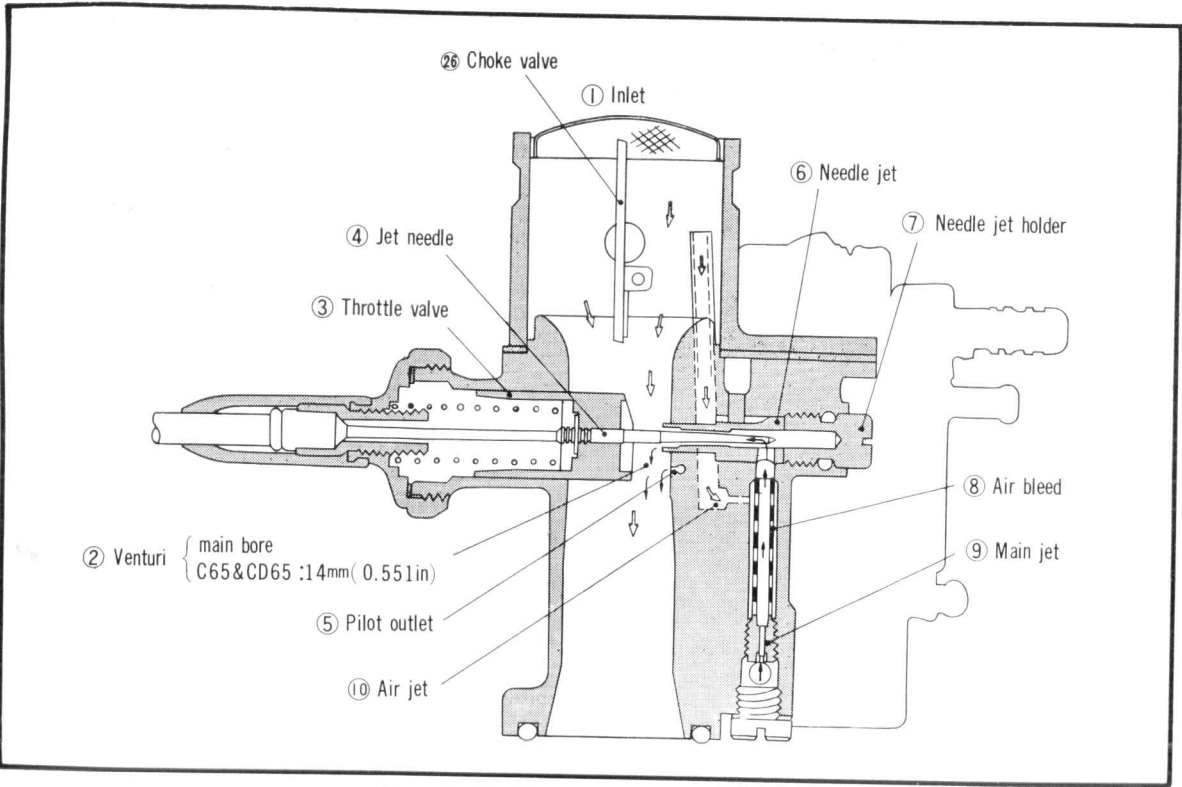

Figure 3-93. Carburetor section diagram
The carburetor used is a down draft type which draws the air into the carburetor from the top, henceforth the name. The air from the air cleaner which enters from the inlet opening ①, passes by the throttle valve ③ and is drawn into the engine after passing through the venturi. The power output is determined by the volume of air flow which is controlled by the movement of the throttle valve ③ to vary the opening of the venturi ②. (Fig. 3-93)
The fuel enters through the main jet ⑨, and in the main jet, it mixes with the air in the air bleed ⑧ after having been metered by the air jet ⑩. The fuel and air mixture passes through the opening between the needle jet ⑥ and jet needle ④ to be sprayed at the throttle valve ③. The spray mixes with the main incoming air and becomes atomized before being taken into the engine. (Fig. 3-93)